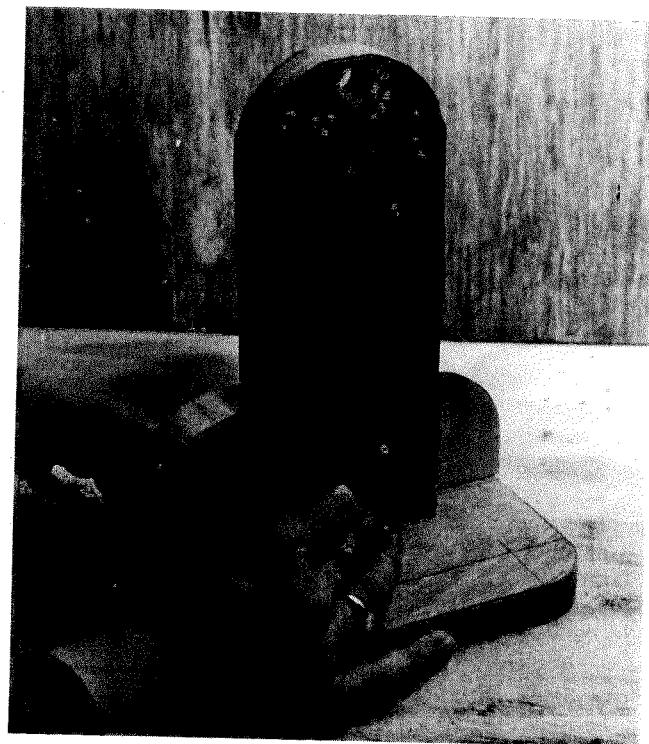

FIGURE 2-2
- Finally, when you have achieved what you think is a good fit and finish of the three boards, set the tall backboard on the base and draw in a couple of alignment marks (Fig 2-2).